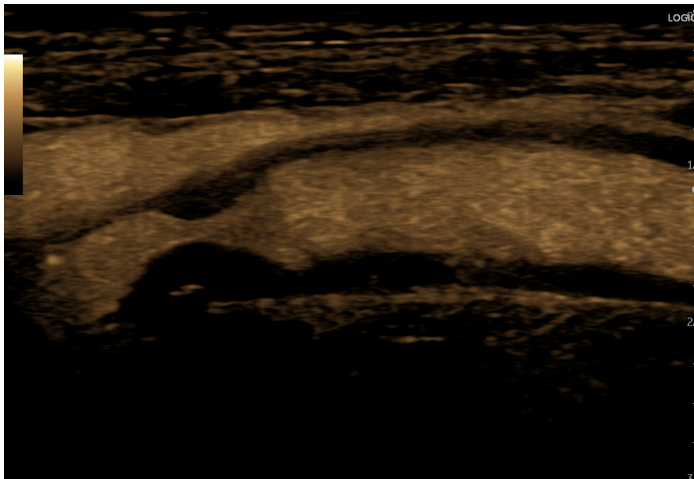

Figure 22. Distal common carotid artery with B-Flow allowing a clear delineation of the wall defect caused by plaque.
- Assessing high grade stenosis in arteries (Figure 22)